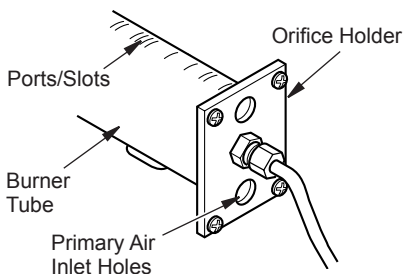

Figure 48 - Orifice Holder On Outlet Burner Tube
2. Inspect burner, pilot and primary air inlet holes on orifice holder for dust and dirt (see Figure 48).